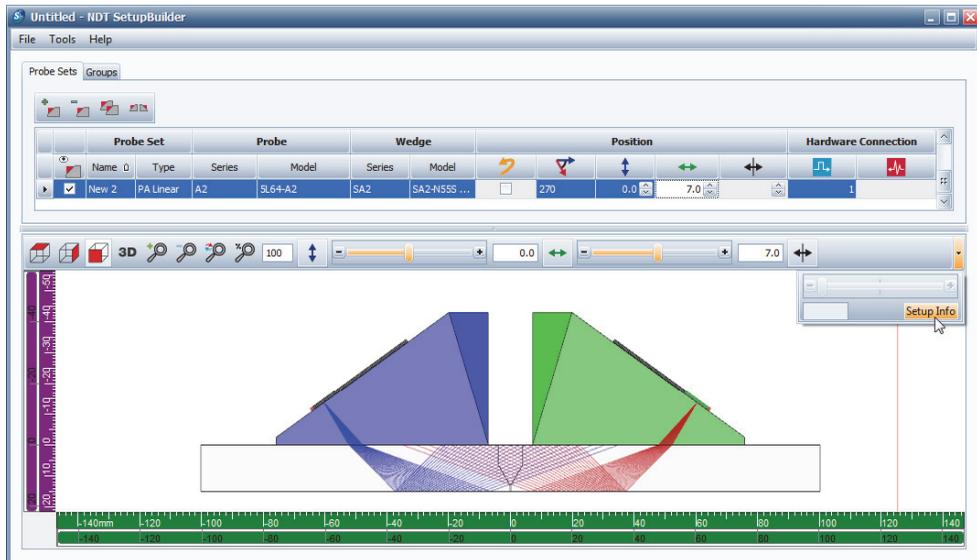

Figure 4-19 Clicking the Setup Info button on the RayTracing view toolbar
- ◆ Click the **Setup Info** button on the right-hand side of the RayTracing view toolbar (see Figure 4-19 on page 49).